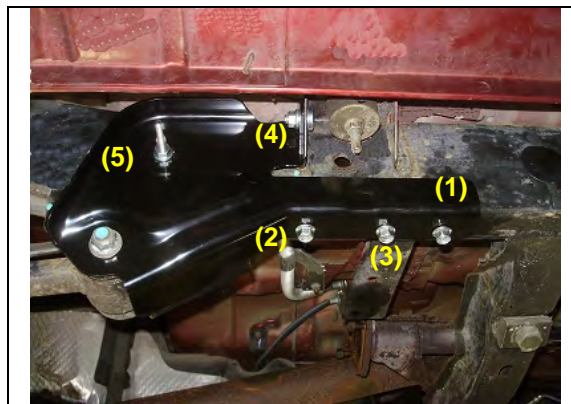

Figure 25
17. Torque the bolts in sequence and to the specifications shown in Figure 25.